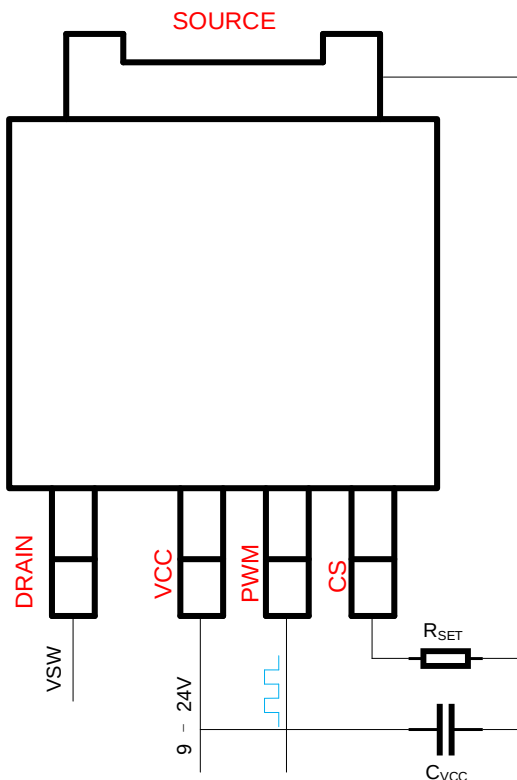

Figure 18. IC connection diagram
The typical connection diagram for this GaN Power IC is shown in Fig 18. The IC pins include drain of the GaN power FET (D), source of the GaN power FET (S), IC supply (V_{CC}), PWM input (PWM), and current sensing output (CS). The external components around the IC include V_{CC} filter capacitor (C_{VCC}) connected between V_{CC} pin and S pin, a current sense amplitude set resistor (R_{SET}) connected between CS pin and S.